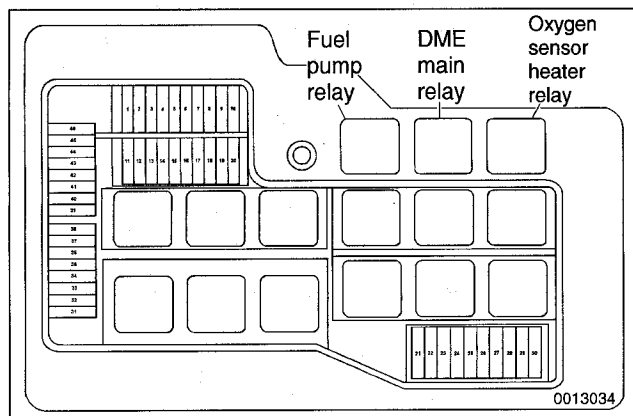

Fig. 6. Engine management relays in the power distribution box, left rear of engine compartment.
1. With ignition off, remove main relay. See Fig. 6.
The fuel pump relay is located in the power distribution box. Refer to Fig. 6.
*The oxygen sensor heater relay is mounted in the main power distribution box in the left rear of the engine compartment. Refer to Fig. 6. The heater relay is energized with positive (+) battery voltage from the main relay and a switched ground from the ECM. See **Electrical Wiring Diagrams**.*
To operate the fuel pump for testing purposes without having to run the engine, the fuel pump relay can be bypassed to power the pump directly. Fuel pump relay location is shown in Fig. 6.